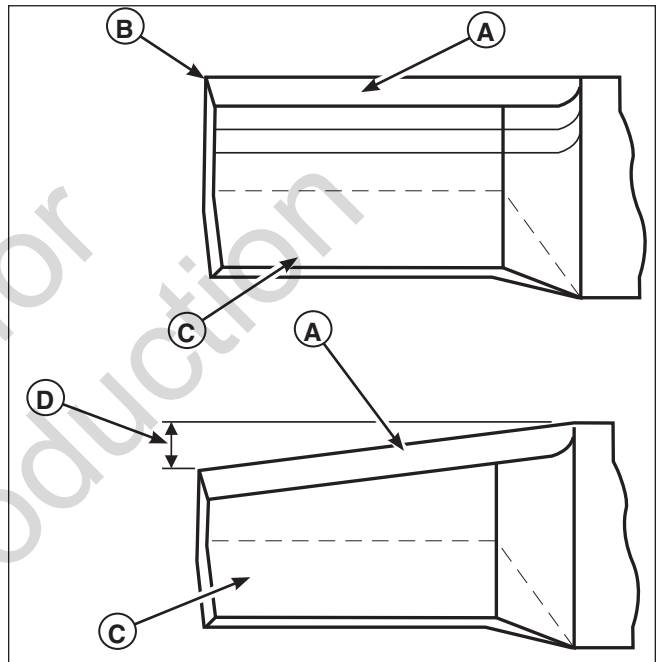

Figure 26. Inspecting the Mower Blade Tips
1. Inspect the mower blade (**Figures 26 & 27**). **Discard the mower blade if it has any of the below conditions.**